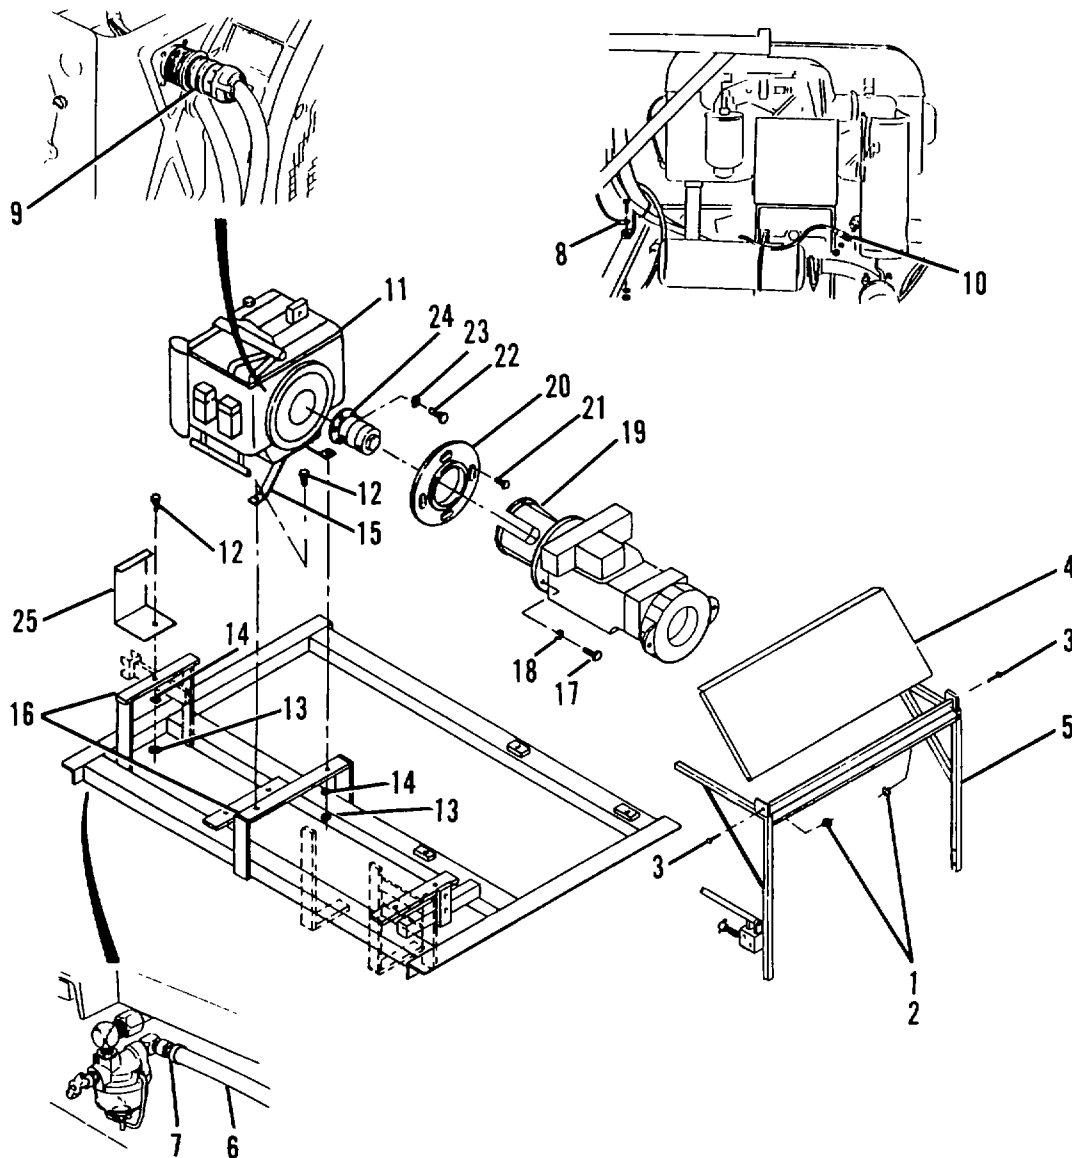

Figure 4-45.2. Engine Mounting.
(21) Remove eight socket head capscrews (21, Figure 4-45.2) and adapter plate (20).
(22) Remove six capscrews (22) and washers (23) from stub shaft (24).
(23) Remove stub shaft and coupling (24).